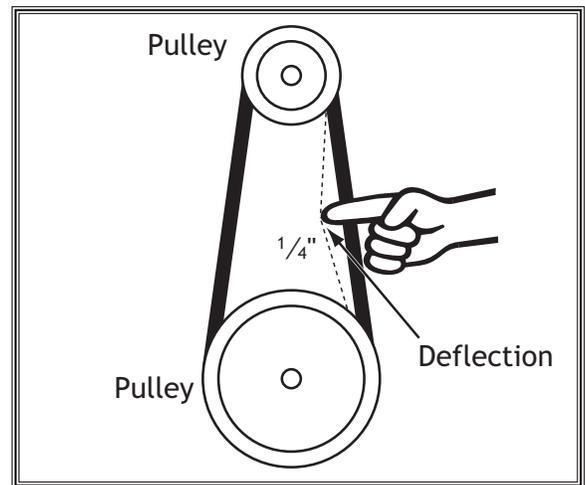

Figure 129. Checking belt tension.
5. Press belt in center to check belt tension. The belt is correctly tensioned when there is approximately 1/4" deflection when it is pushed with moderate pressure, as shown in **Figure 129**.